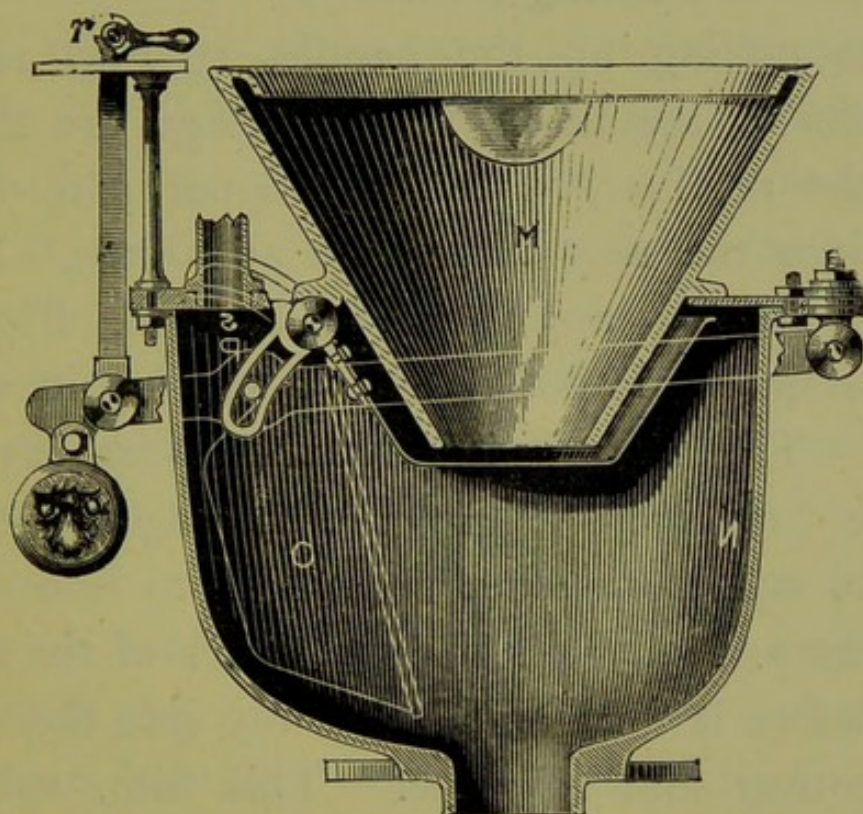

FIG. 24. SECTION.
Pan water-closet apparatus (see Section, Fig. 24). The writer has always been puzzled to
The *receiver*,* N, Fig. 24, is a large cast-iron receiver, or vessel, for the copper pan, O, to work inside, and to receive its contents when the water-closet is used. The vessel, O, is a copper
On pulling up the handle, *r*, Fig. 24, the contents of the basin, M, after usage, are thrown into the receiver, N, by the copper pan, O, and pass into the trap under the apparatus. But a glance at this apparatus in Section, Fig. 24, will show the impossibility of keeping it wholesome. The deposit is dashed against the side of the "receiver," N, by the tipping out of the pan, O, and is splashed from side to side of the receiver and all over the *outer side* of the *copper pan*, before it finally finds its way into the water-closet trap and soil-pipe. This filth, splashed about over the receiver and copper pan, is left to corrode, and to be added to by each usage of the closet, for it is impossible to get at it to clear it away, and especially the *under or outer side* of the copper pan, the *back part* of the *receiver* where the copper pan is hinged, and the *under side* of the top, P. Moreover, the basin, M, though made of pottery-ware, gets completely corroded with soil and urine up to the water-line on the *outer side* next the copper pan; and there is
* This apparatus takes its name from this "pan," and not from the basin, M, Fig. 24.
It is supposed by many that the copper pan, o, Fig. 24, when at rest, shuts off, by the dip of the basin into its water, the "container," N. Well, it does so, *but very imperfectly*, for any bad air in the "container" can always escape through the holes in its side where the axis is hinged. And if it does not escape there, it can easily find its way through the *air-hole* in the top of the "container," unless there is an air-pipe from it, which is very rarely the case. This air-hole in the top of the "container" is to give vent to the apparatus when in action, to allow the discharge to pass freely from the basin into the container.
Where such an apparatus is used, an *air-pipe*, s, Fig. 24, should always be taken from the vent-hole at the top of the container through the external wall, and its diameter should not be less than $\frac{3}{4}$ in. This air-pipe* must not be connected with any other ventilating-pipe, to soil-pipes, traps, or what not, but must go out separate to the external air.
These water-closets are very much improved by using "containers," or receivers, n, Fig. 24, *enamelled with porcelain on the inside*, and the extra cost of this is only about seven or eight shillings.